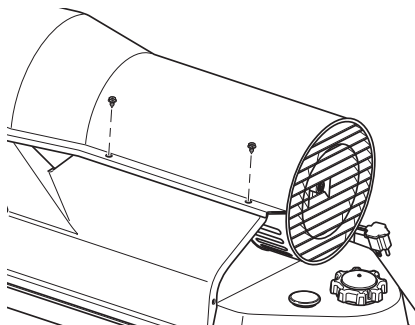

Figure 7 - Upper Shell Removal
1. Remove screws along each side of heater using 5/16" nut-driver. These screws attach upper and lower shells together. See Figure 7.
1. Remove upper shell (see Figure 7).